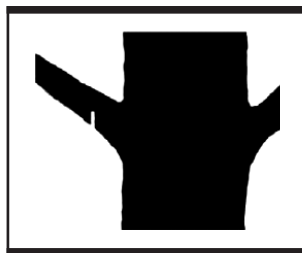

Fig. 14a
- a). First cut into the branch from below, outside of the location where you intend to cut off the branch. The cut should go one third to halfway through the branch. (See Fig.14a)